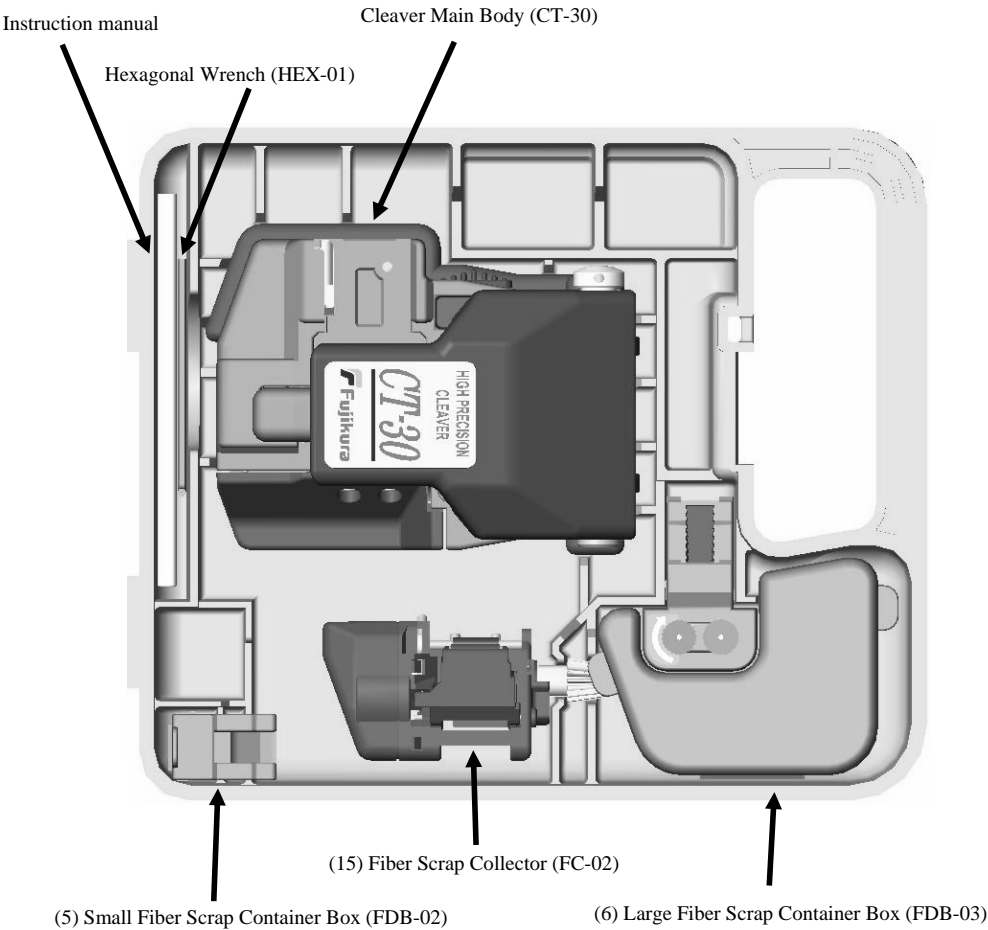

Fig.3
See Fig.3 for top view in the carrying case of the main body with the side cover (16).